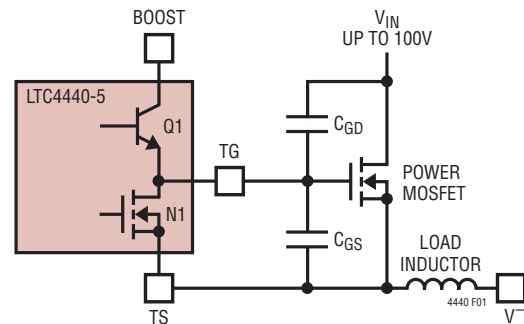

Figure 1. Capacitance Seen by TG During Switching
A simplified version of the LTC4440-5's output stage is shown in Figure 1. The pull-down device is an N-channel MOSFET (N1) and the pull-up device is an NPN bipolar junction transistor (Q1). The output swings from the lower rail (TS) to within an NPN  $V_{BE}$  (~0.7V) of the positive rail (BOOST). This large voltage swing is important in driving external power MOSFETs, whose  $R_{DS(ON)}$  is inversely proportional to its gate overdrive voltage ( $V_{GS} - V_{TH}$ ).